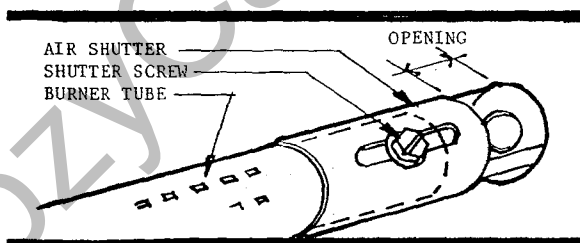
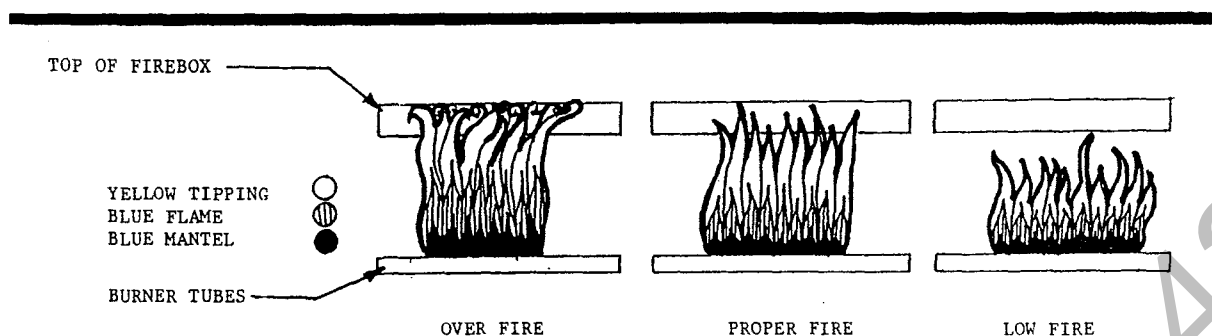

Figure 10 - Air Shutters
Figure 11 - Flame Patterns
There are two adjustable air shutters located on the burner tubes within the firebox (Figure 10). The air shutters are used to regulate the air-to-gas combustion mixture which in turn influences the size and color of the flames (Figure 11). A proper flame will burn between the logs and intermittently touch the top of the firebox. A low flame will burn between the logs and stop short of the top of the firebox by an inch or two. A flame which is over firing will continuously roll off the top of the firebox, roll out from under the front log, and touch the glass.
2. Compare the flame pattern of the unit to the patterns shown in Figure 11.
5. Locate the two air shutters on the two burner tubes at the end closest to the gas control valve. Loosen the shutter set screw and slide the shutter to the left to open and to the right to close the opening as shown in Figure 10.
8. Again compare the flame pattern of the unit to the patterns shown in Figure 11 and repeat the process described above if further air shutter adjustment is necessary to obtain the proper flame pattern.